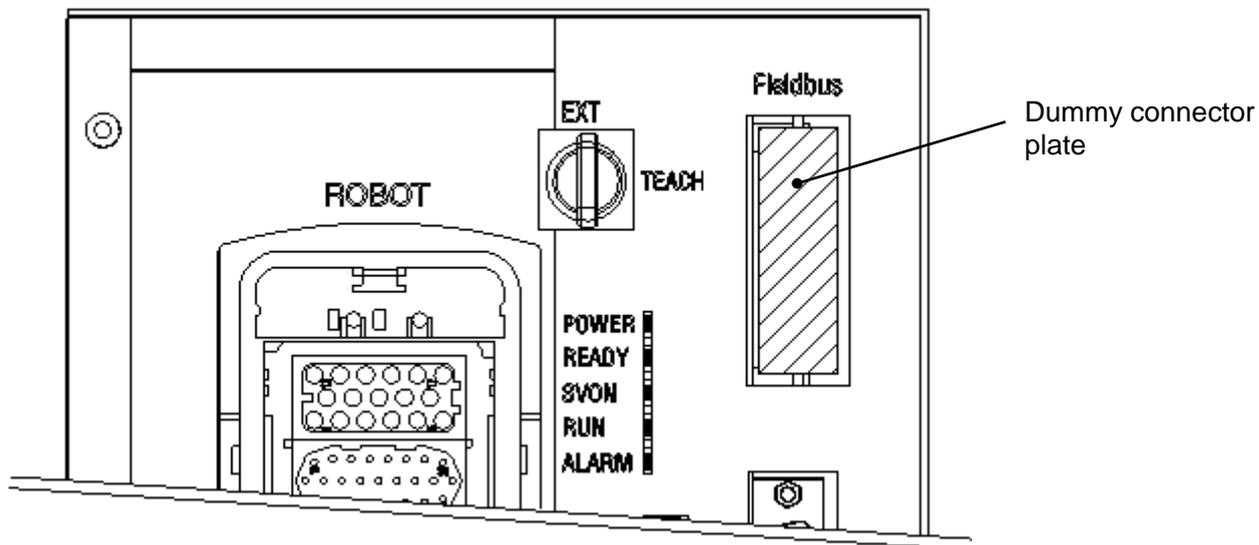

Fig. 6 KSL3000 Robot Controller Front Panel Top
- (3) Remove the dummy connector plate (shown as the cross-hatched section in Fig. 6) on the rear panel of the robot controller.